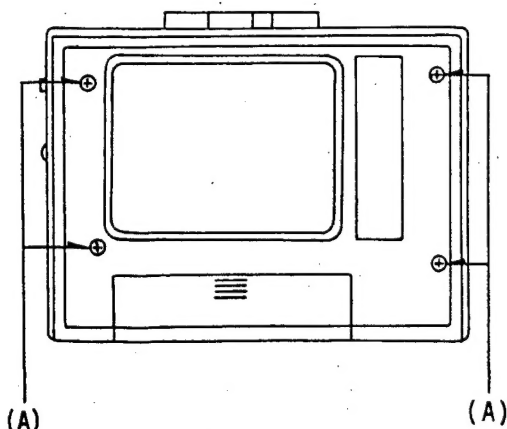

Fig. 1
■ Removal of the Rear Cabinet (Fig. 1)
1. Remove screws (A) (2×10) mm.